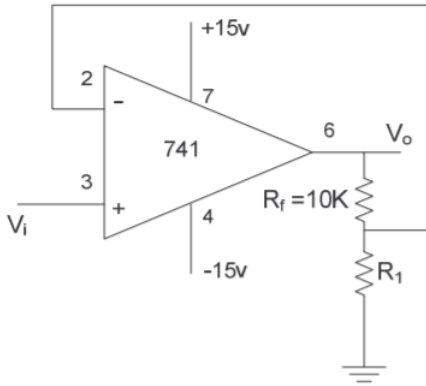

Figure 3-5 Non-Inverting Amplifier
- Referring to Figure 3-5, develop a formula that will give the voltage gain, V_o/V_i in terms of R_1 and the feedback resistance, R_f . Assume the voltage difference between pins 2 and 3 to be zero, and the current flowing into these pins also to be zero.